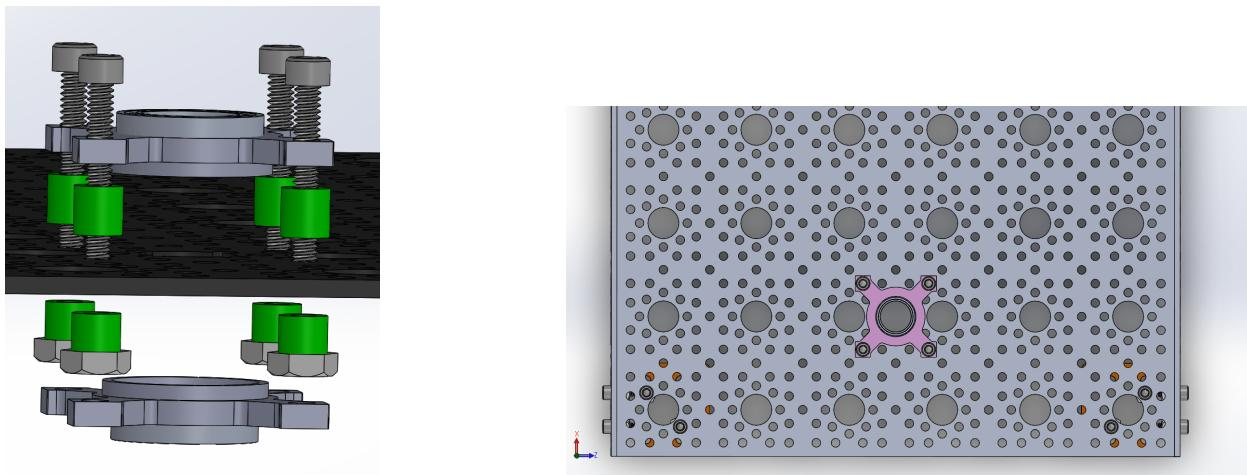

Figure 6: Mounting the pillow blocks
- 1. Mount the pillow bearing blocks:** Using spacers **T1**, screws **B6**, and hex nut **B11**, mount the pillow blocks **S11** to the top of the body over the hole in the aluminum plate that you drilled earlier as shown in Figure 6.